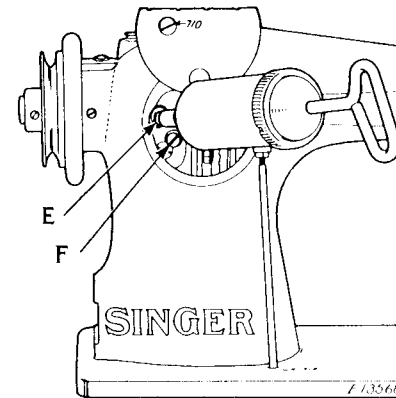

Fig. 4
Replenish the gear cases at (E) and (H), Figs. 4 and 5 with Singer Gear Lubricant every 160 hours of operation.
To supply grease to the upper gear case (Fig. 4), have the machine in its normal working position, remove the level hole screw (F, Fig. 4) and force the lubricant into the Alemite fitting (E, Fig. 4) until it emerges from the level hole at (F), then replace the screw (F).